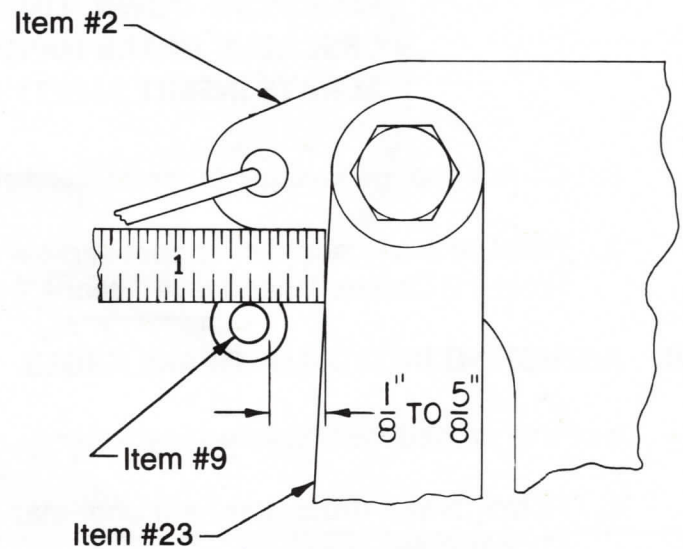

Fig. 33
8. Brake lever should move from 1/8" to 5/8" away from "off" stop pin, (Item #9) Fig. 33, when brake is applied. If brake lever moves more than 5/8", top actuator assembly should be adjusted. Go to Step C before proceeding with this adjustment. If brake travel tolerance is alright, go to next number.
13. When brake is applied, brake lever travel tolerance should be from 1/8" to 5/8" away from "off" stop pin, Fig. 33, page 42.